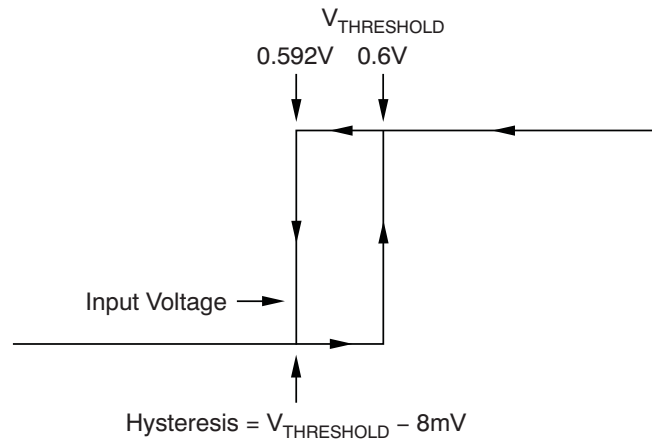

Figure 1. Typical Comparator Hysteresis
- (1) Hysteresis refers to the threshold (the threshold specification applies to a rising edge of a noninverting input) of a falling edge on the noninverting input of the comparator; refer to Figure 1.
- (2) Specified by design.
- (3) V_{ID} refers to the differential voltage at the comparator inputs.
- (4) Open-drain output can be pulled to the range of 2.7 to 18 V, regardless of V_S .
- (5) The comparator response time specified is the interval between the input step function and the instant when the output crosses 1.4 V.
- (6) The RESET input has an internal 2 $\text{M}\Omega$ (typical) pull-down. Leaving RESET open results in a LOW state, with transparent comparator operation.